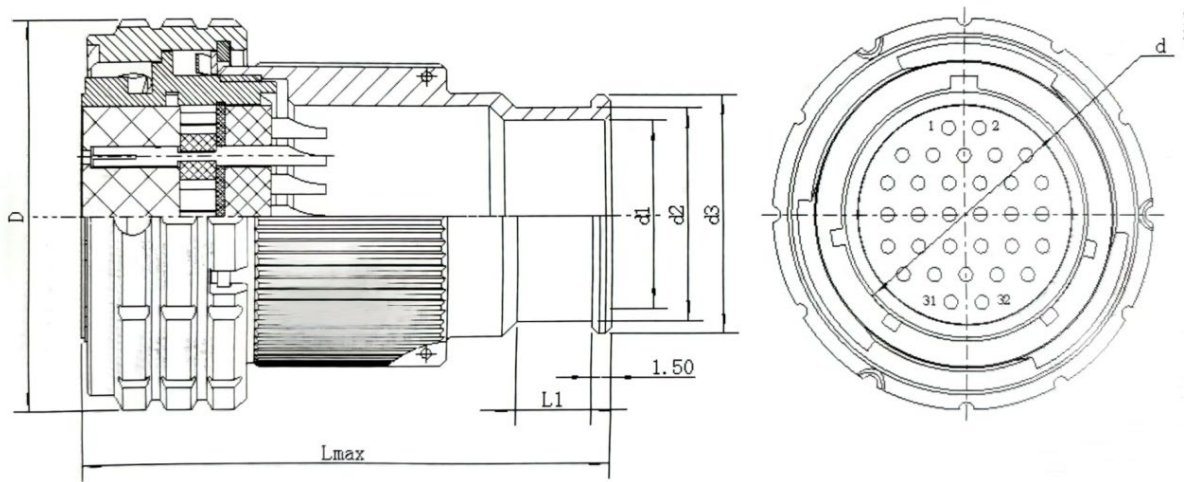

Figure 3. The hole group arrangement for ZH127-2-32/22-P4-1-B is shown as an example
- The overall dimensions of ZH127 series plugs with P4 tail attachment are shown in the table below Figure 3.
The hole group arrangement shown in Figure 3 takes ZH127-2-32/22-P4-1-B as an example.